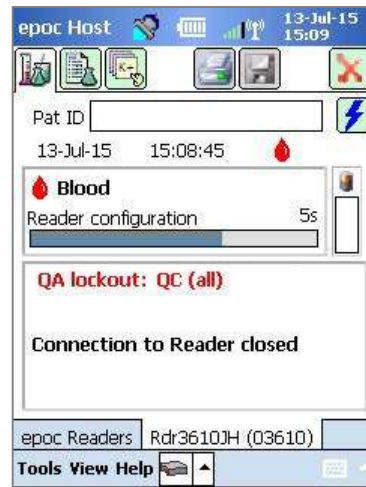

Fig. 42.
- Tapping **No** will lock out the system (Fig. 42), preventing blood testing until the required QA schedule criteria is met.